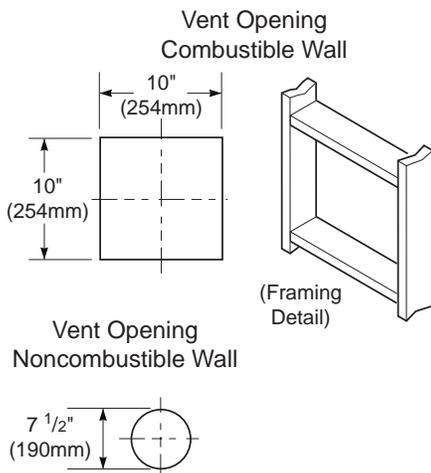

Figure 12 - Vent Opening Requirements
- Attach vent pipe assembly to the fireplace. Set fireplace in front of its permanent location to insure minimum clearances. Mark the wall for a 10" square hole (for noncombustible material such as masonry block or concrete, a 7 1/2" diameter hole is acceptable). See Figure 12. The center of the hole should line up with the center-line of the horizontal rigid vent pipe. Cut a 10"x10" (254mm x 254mm) square hole through combustible exterior wall (7 1/2" [190mm] diameter hole if non-combustible). Frame as necessary (see Figure 12).
1. Cut a 10" square hole in the ceiling using the locating hole as a center point. The opening should be framed to 10"x10" (254mm x 254mm) inside dimensions, as shown in Figure 12 on page 9 using framing lumber the same size as the ceiling joists. If the area above the ceiling is an insulated ceiling or a room, nail firestop from the top side. This prevents loose insulation from falling into the required clearance space. Otherwise, install firestop below the framed hole. The firestop should be installed with no less than three nails per side (see Figure 22).
3. Cut a hole in the roof using the locating hole as a center point. (Cover any exposed open vent pipes before cutting hole in roof.) The 10"x10" hole must be measured on the horizontal; actual length may be larger depending on the pitch of the roof. There must be a 1" clearance from the vent pipe to combustible materials. Frame the opening as shown in Figure 12 on page 9.